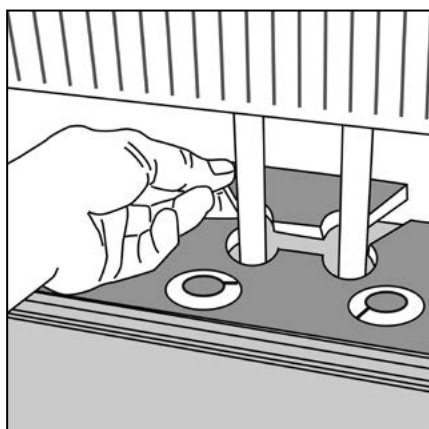

Figure 21 Radiator pipes
- ▶ Leave this in place until the glue has hardened (Fig 21 overleaf).